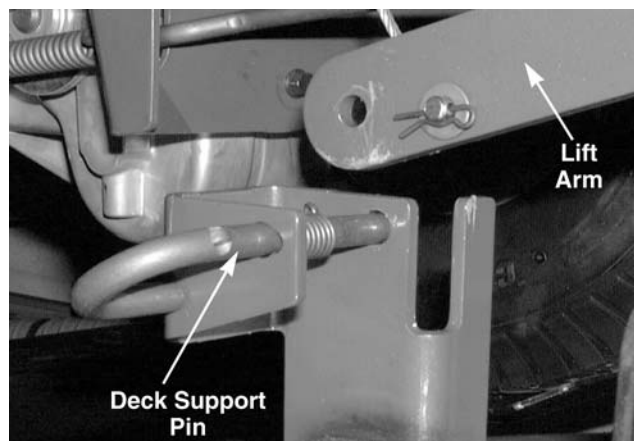

Figure 9-12.
6. Pull the rear deck support pins outward from the deck lift arms. See Figure 9-12.